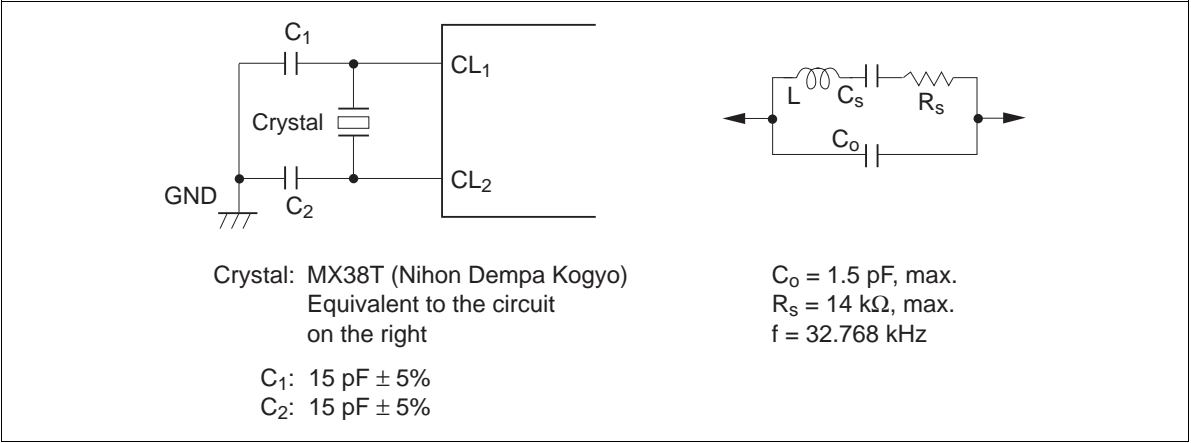

Figure 63 Oscillation Circuits (2)
2. The oscillation stabilization time is the period required for the oscillator to stabilize after V_{CC} reaches 3.0 V at power-on (figure 63). If using a crystal oscillator, contact the manufacturer to determine the circuit constants, since the stabilization time depends on the circuit constants and stray capacitances.